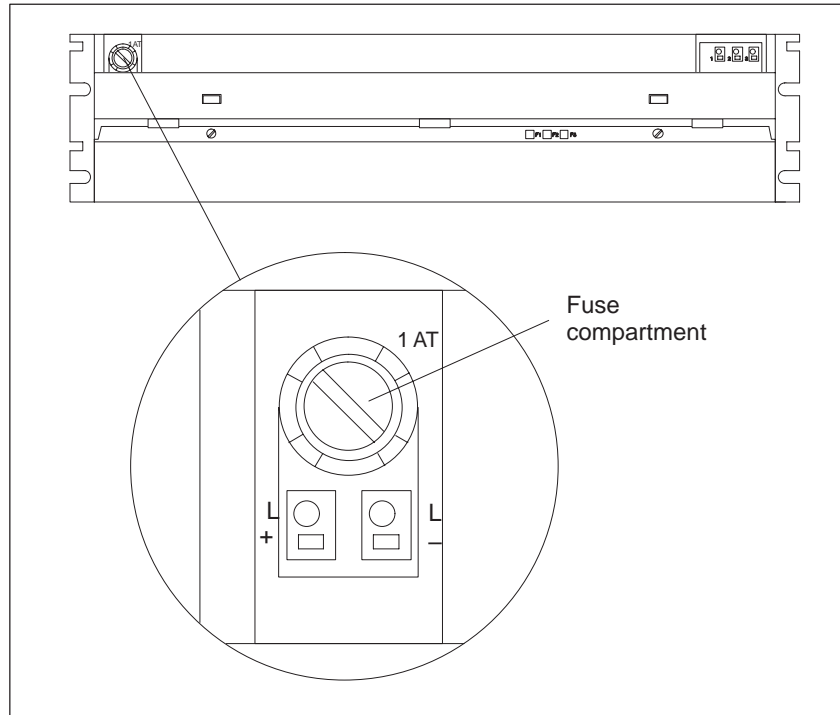

Figure 4-9 Front View of the Fan Subassembly
1. Using a screwdriver, twist out the fuse cover (Figure 4-9).